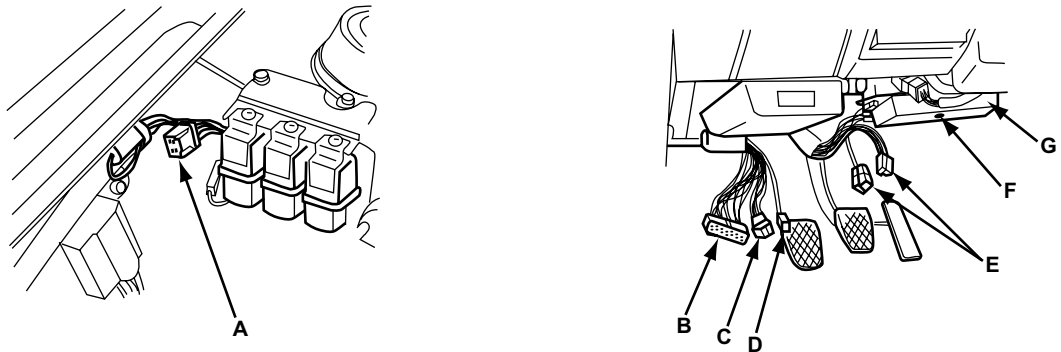

Figure 15-34 1984 ECC carbureted
- “1984 ECC carbureted” on page 193 (Figure 15-34)